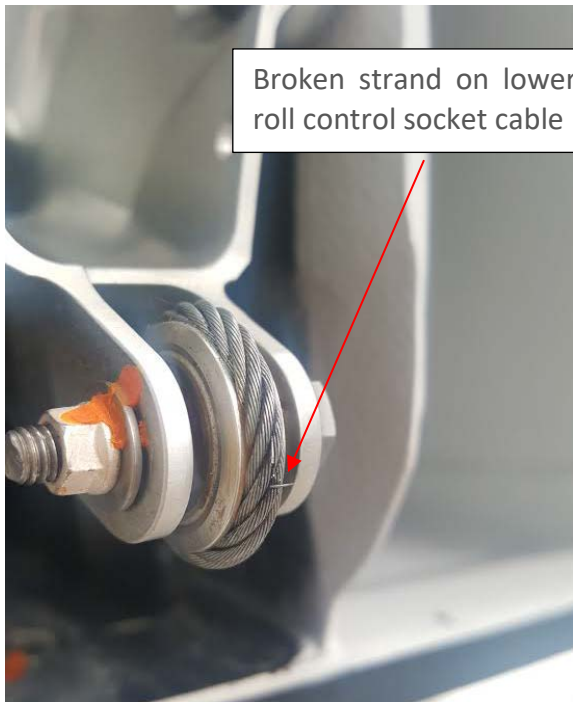
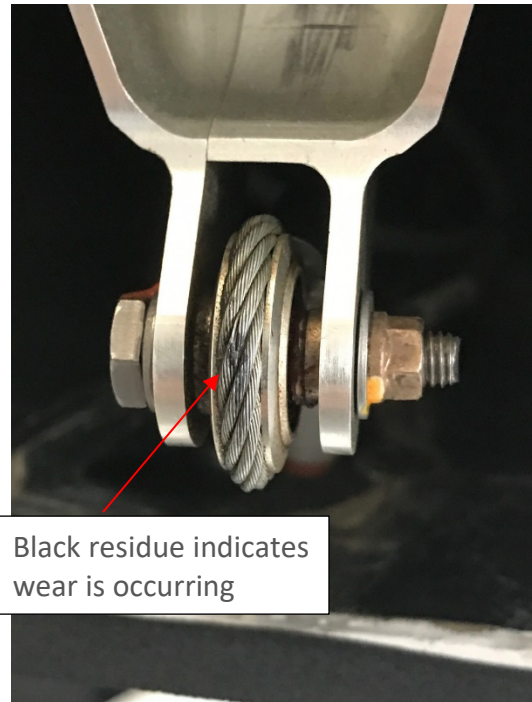

Figure 3: Broken strand of lower roll control cable
Figure 4: Black residue indicating wear
ICON is committed to designing, manufacturing, delivering, and supporting a high quality Light Sport Aircraft, providing a level of safety well beyond expectations. During routine maintenance of the aircraft, it was discovered that the lower roll control cable and inboard rod end on the inboard aileron control pushrod showed signs of excessive wear. The contact location is shown in the figures 1 and 2. On three aircraft, this condition has resulted in wear of the roll control cable beyond acceptable limits (figures 3 and 4). This Service Bulletin provides details on an initial inspection and, if required, a progressive inspection schedule along with instructions for repair if needed for Continued Airworthiness.
- a. If there **is** evidence of wear on the rod end as shown in figure 3 or the roll control cable as shown in figure 4 carefully inspect the end of the roll control cable for any broken strands as shown in figure 3.